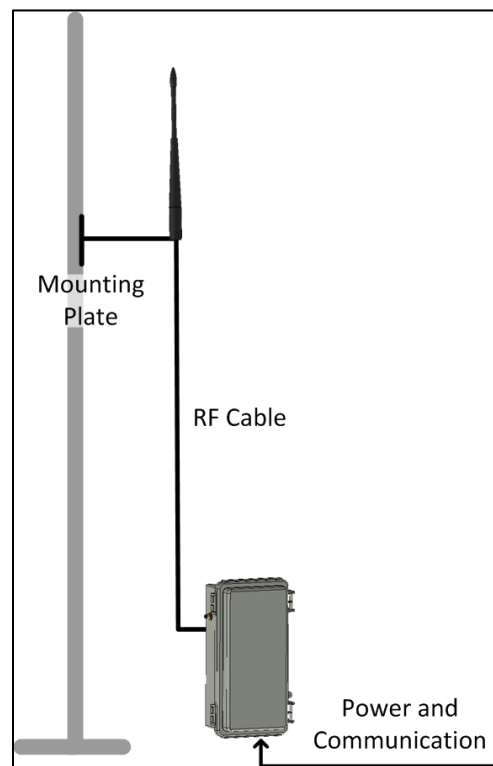

Figure 10: RLINK ONE Antenna Installed on a Pole (Recommended)
- Mount the antenna on a pole and connect it to the RLINK ONE using RF cable (Figure 10).